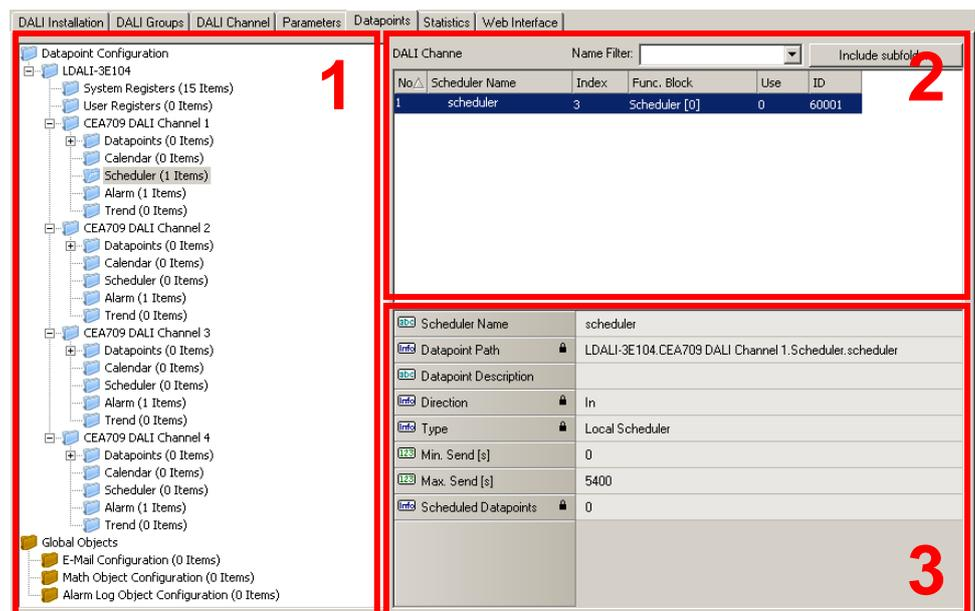

Figure 117: Data Point Manager Dialog.
The Configurator uses a central concept to manage data points. The data point manager is located on the **Datapoints** tab as shown in Figure 117. It is used to select, create, edit and delete user data points, calendar, scheduler, and trendlog objects, e-mail templates, alarm logs, and math objects. The dialog is divided into three sections:
- The folder list (number 1 in Figure 117),
- The data point list (number 2 in Figure 117),
- And a property view (number 3 in Figure 117).